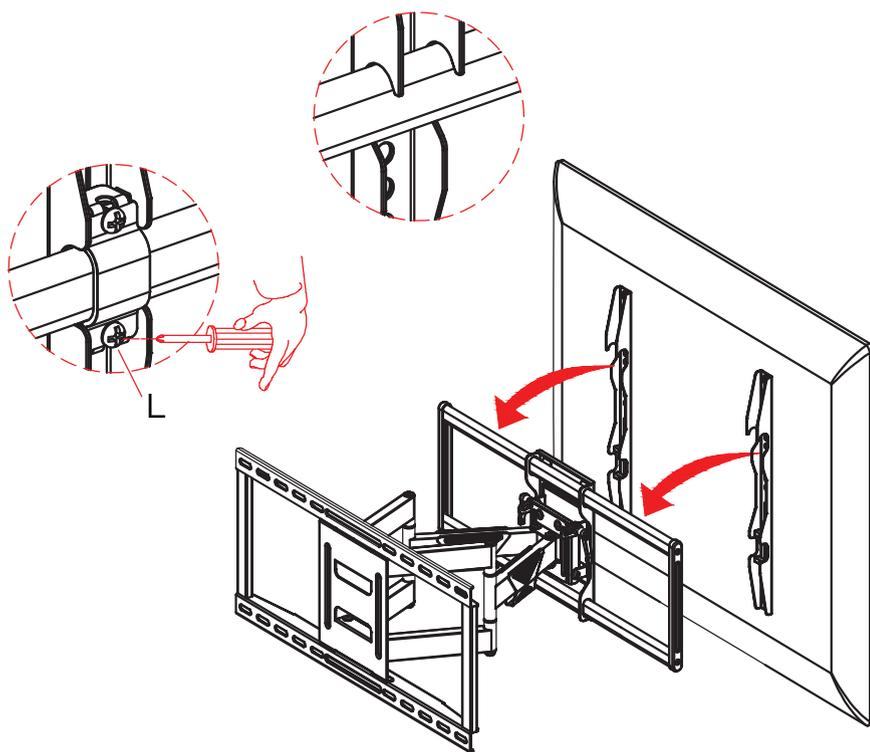

Figure 5
Step 3: Hang the pre-assembled TV unit on the wall plate and then tighten the safety screws(Figure 5)